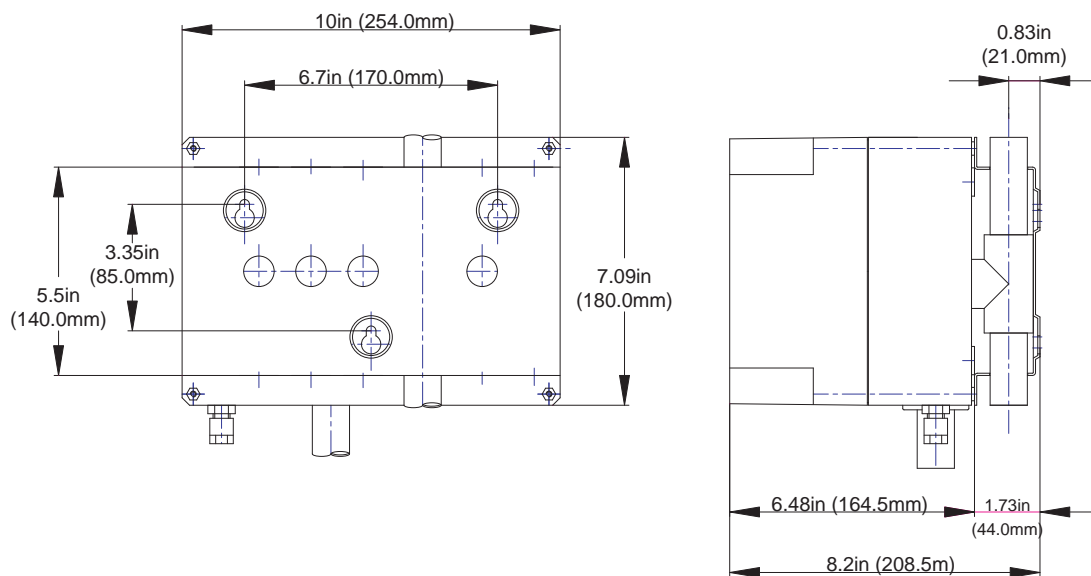

Figure 2-1: VPR-1P Mounting Diagram and Dimensions
1. Securely mount the back box to a suitable wall or support using the three points shown in the mounting diagrams. Refer to Figure 2-1 for further information. M6 or M8 screws are suitable.